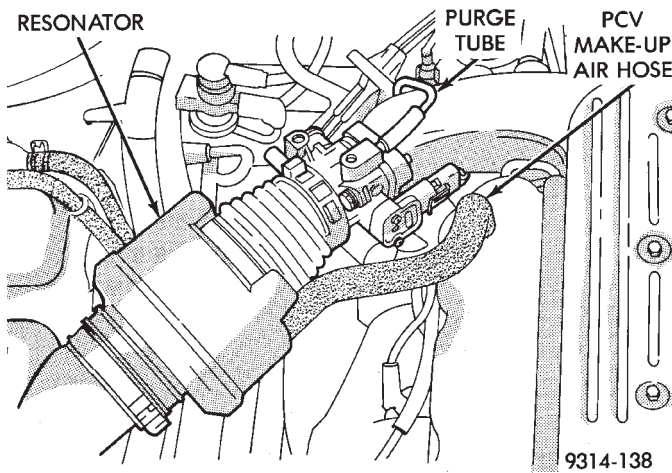

Fig. 4 PCV Make-Up Air Hose
- (1) Disconnect PCV make-up air hose from cylinder head cover. Remove air cleaner tube from throttle body (Fig. 4).
- (2) Disconnect purge hose from throttle body.